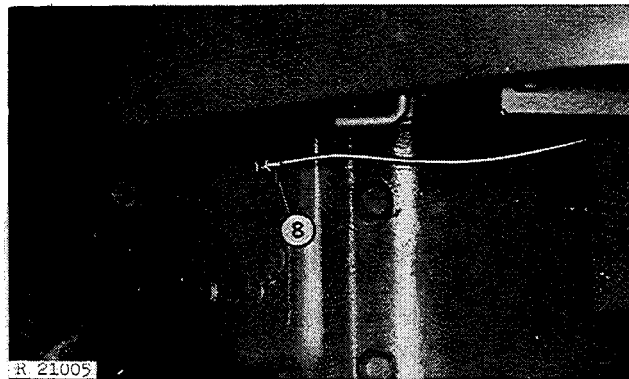

Fig. 10—Hydraulic Pump Oil Seal Drain Tube
8. Disconnect hydraulic pump oil seal drain tube (Fig. 10).